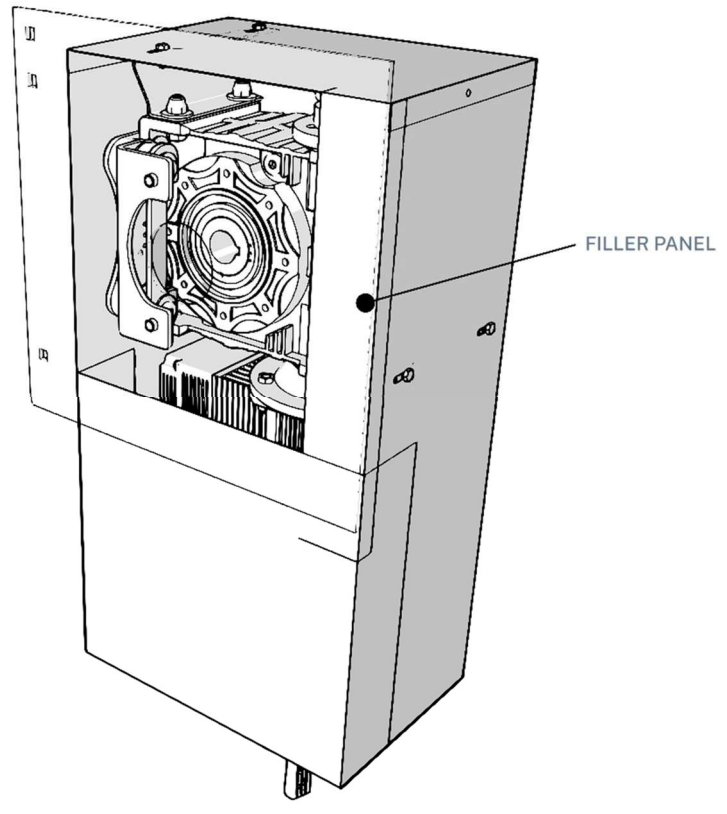

Figure 4 – Cover Filler
5. For smaller bracket sizes, if there is a gap between the bracket and the **FRONT/TOP COVER**, install the **COVER FILLER**, attaching it to the **FRONT/TOP COVER** on the front of the bracket using (2) provided 10-16 x 1/2" tap screws. See **Figure 4** for reference.